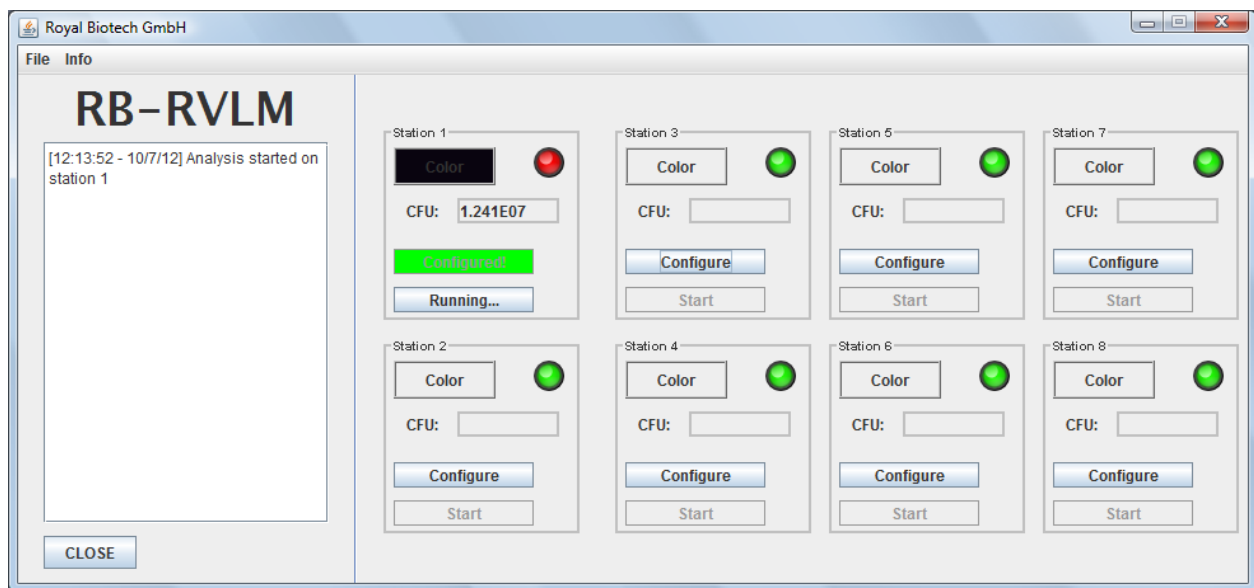

Fig. 11. RVLM – User interface, test start
- You can now begin the test by clicking once on the "Start" button of the configured station. The light turns red and the "Start" button changes to "Running ..." (fig.11);